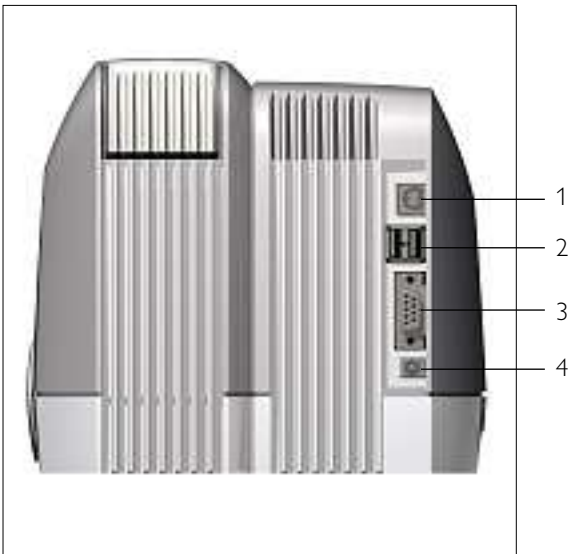

Figure 4
- Insert the plug from the power cord adapter into the power socket (Figure 4) in the back of the Analyzer.
For additional information regarding the recommended barcode reader, printer, and PC connection please call 1-877-4-Afinion (1-877-423-4646) or email techsupport@us.axis-shield.com. See figure 4 for correct connection of the external equipment.